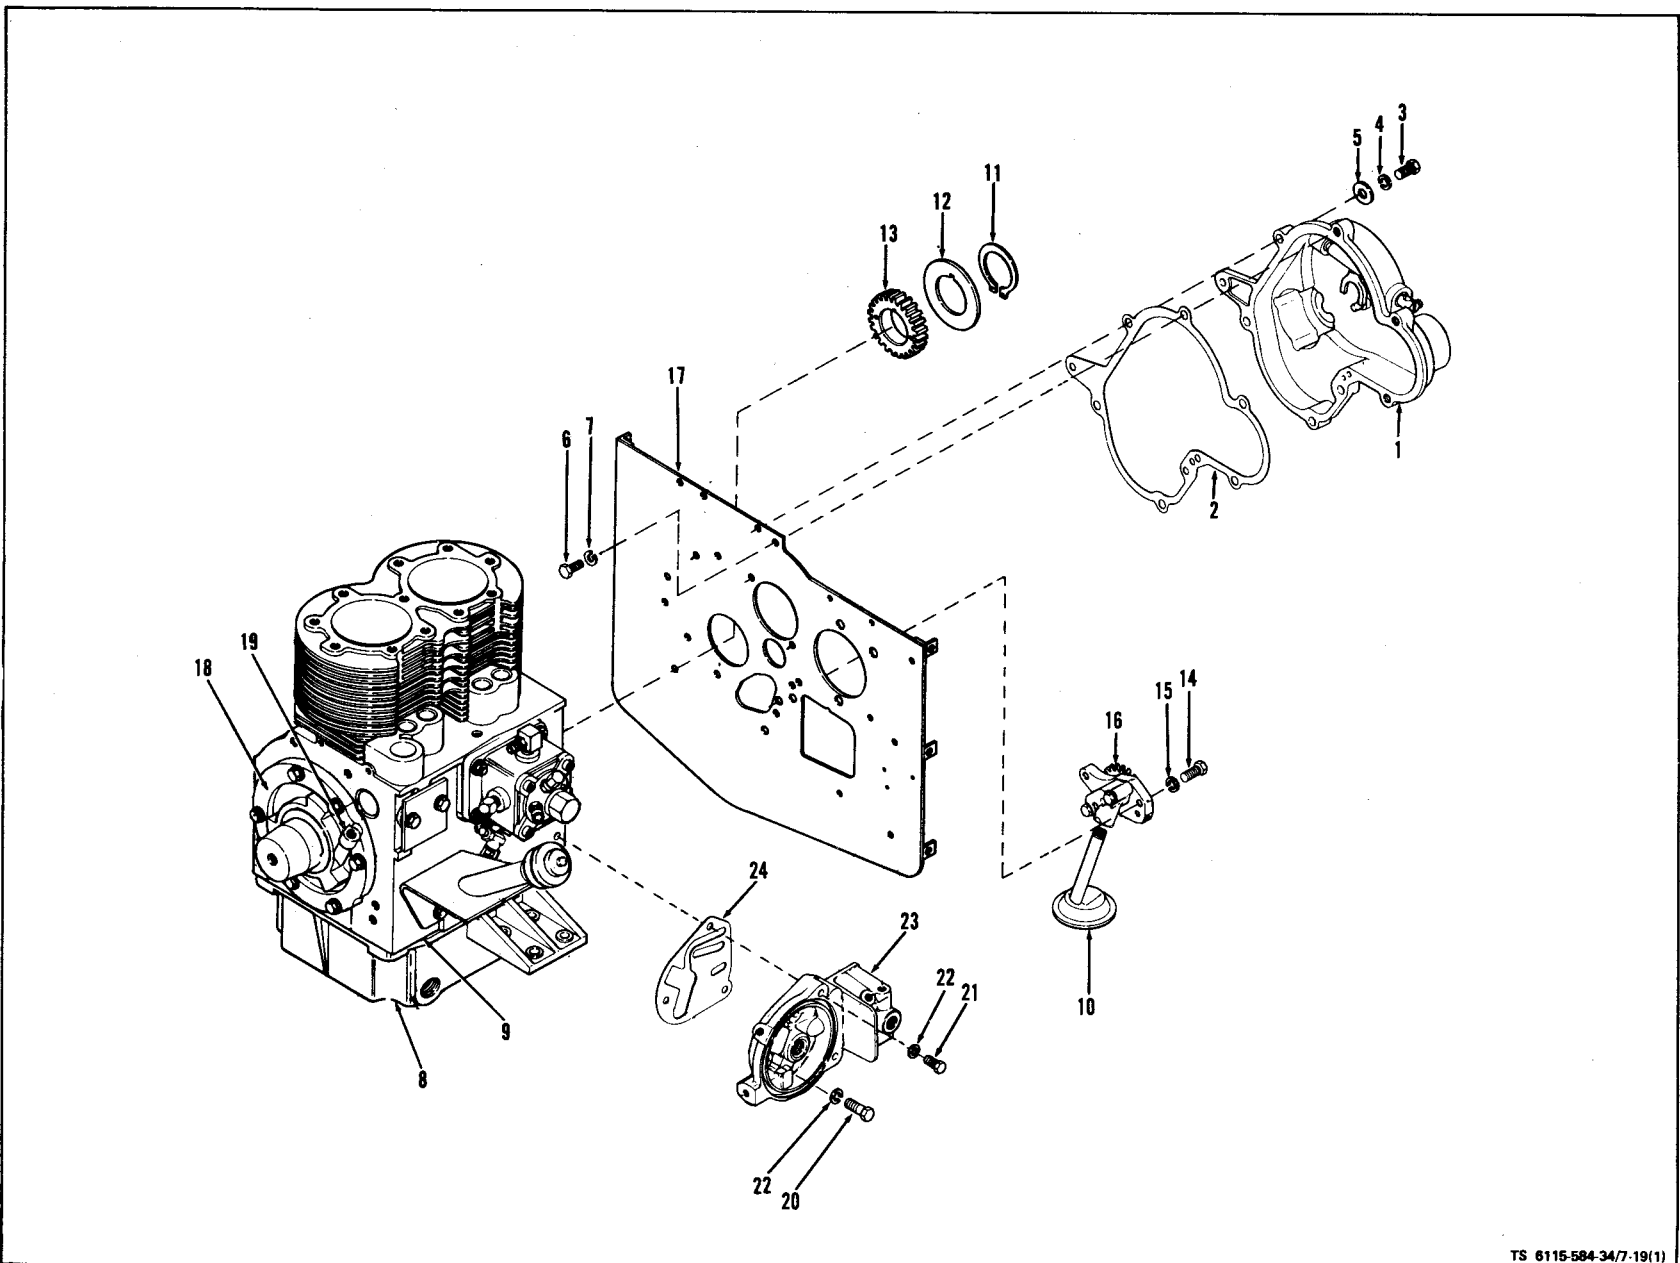

Figure 7-19. Oil Pump Removal (Sheet 1 of 2)
(1) Clean all gasket material from oil filter adapter (23, figure 7-19) and cylinder block. Attach oil filter adapter (23) and new gasket (24) to cylinder block with screws (20 and 21) and lockwashers (22).
(2) Refer to the Operator/Crew and Organizational Maintenance Manual and install the low oil pressure switch, oil filter and oil lines on the oil filter adapter.